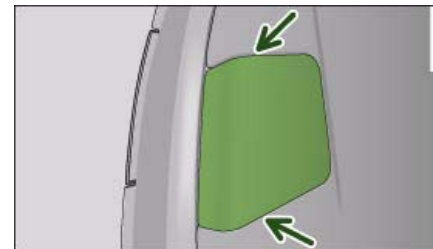

Fig. 278 Boot lid: Opening the cover in the boot lid
- Using the flat-blade side of the reversible screwdriver insert, carefully detach the cover cap ⇒ *page 286*, fig. 278 -arrows-.